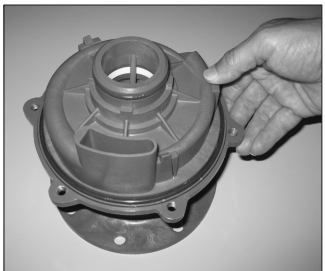

Figure 15
8. To remove the inner volute (item 7), pull back the (3) snap fit prongs one at a time so that the hook portion falls into the channel on the inner volute. See figures 15 & 16.